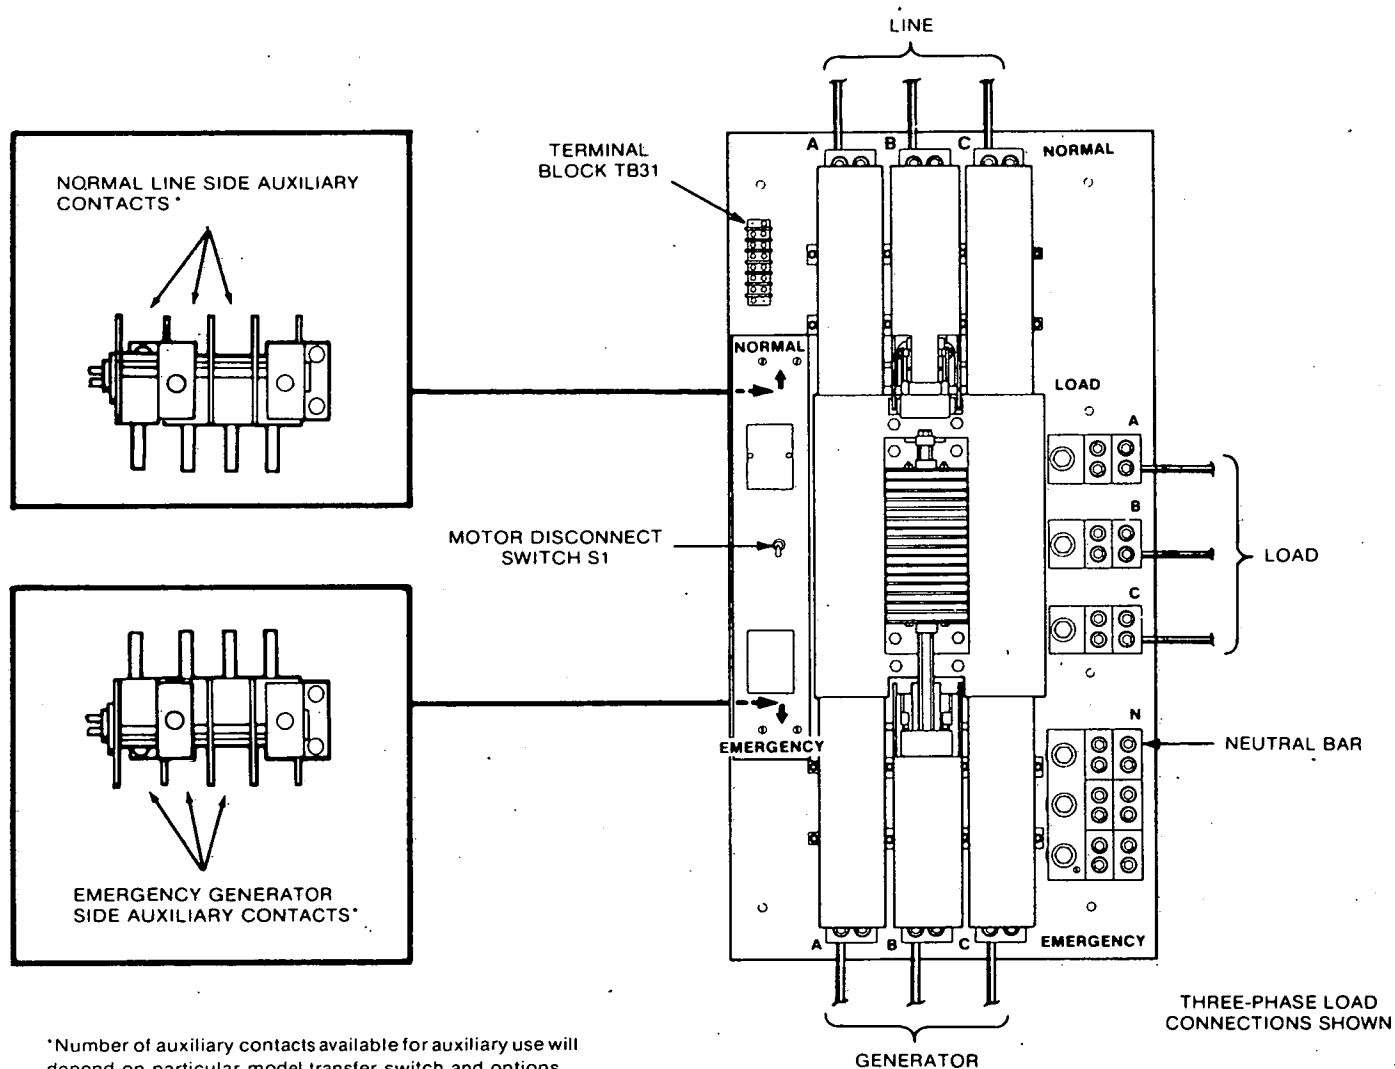

FIGURE 4. TRANSFER SWITCH WIRE CONNECTIONS
4. Neutral Bar (if used): Connect the neutral wires to the neutral bar (Figure 4). Table 1 lists the wire sizes and types the neutral bar accepts.
9. Auxiliary Contacts (if used): Auxiliary contacts are located on the normal and emergency sides of the transfer switch for external alarm or control circuitry. To gain access to the auxiliary contacts, remove the transfer switch cover which houses the motor disconnect switch S1 (cover held in place by four screws). See Figure 4. The contacts have ratings of 25 amperes at 125, 250, or 480 VAC; 1 horsepower at 125 VAC; 2 horsepower at 250 VAC or 480 VAC; and a pilot duty rating of 750 VA at 277 VAC maximum.